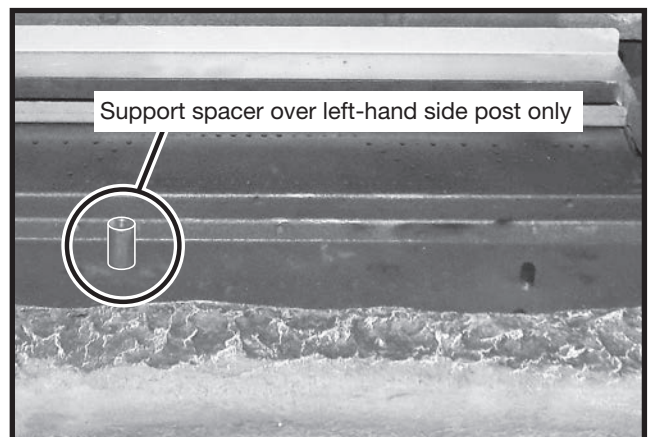

Figure 67: Support spacer over post.
5. Place included metal spacer over top of the left-hand side post located on the front burner (Figure 67). This spacer will support the front end of log number two.